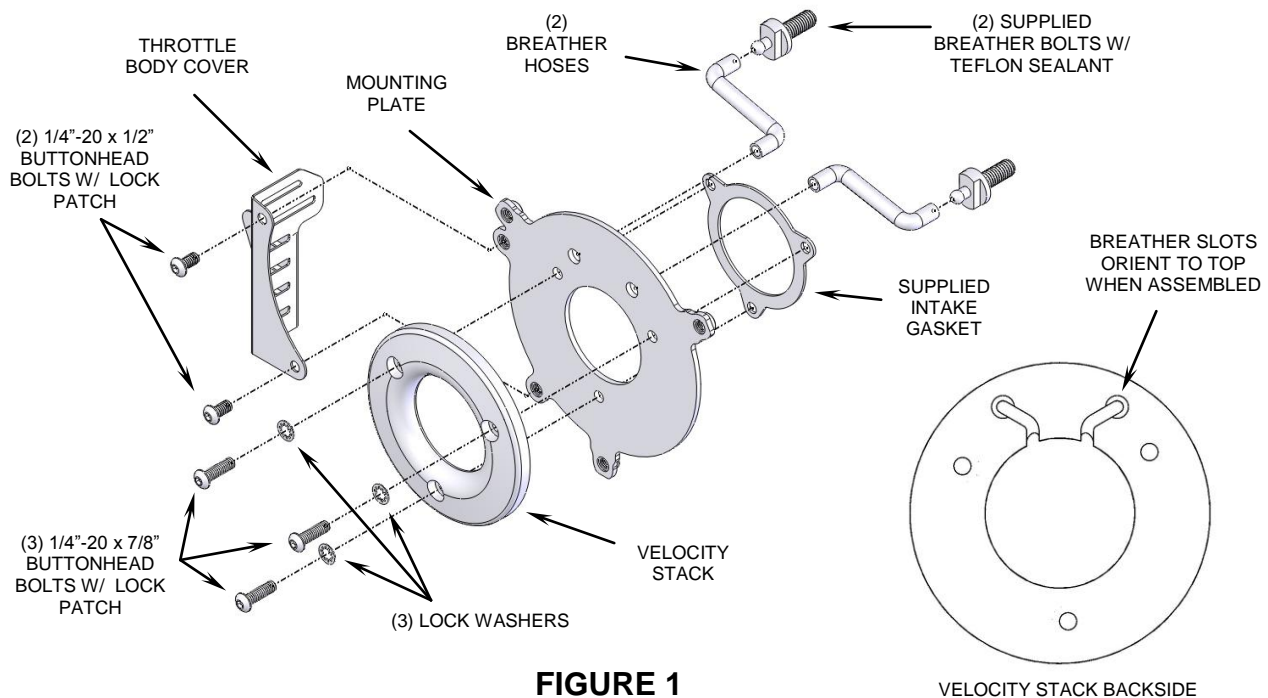

FIGURE 1
1. Remove the allen bolt from the center of the stock air cleaner to remove the cover. Remove the (3) bolts securing the formed bracket located on top of the air filter. Then remove and discard the air filter, air box and seals/gaskets.
2. Remove and discard the (2) stock breather bolts, (2) stock o-rings, and (2) stock breather hoses from the cylinder heads.
3. Insert the (3) supplied 1/4"-20 x 7/8" buttonhead bolts and lock washers through the mounting holes in the velocity stack and mounting plate. While holding that assembly together with one hand, insert the (2) breather hoses through the mounting plate and into the velocity stack with the hoses rotated outward, as shown in Figure 1. Make sure hoses are bottomed out in the back of the velocity stack.
4. Join together the assembly from Step 3 with the supplied gasket then start threading the (3) buttonhead bolts into the throttle body, but do not tighten.